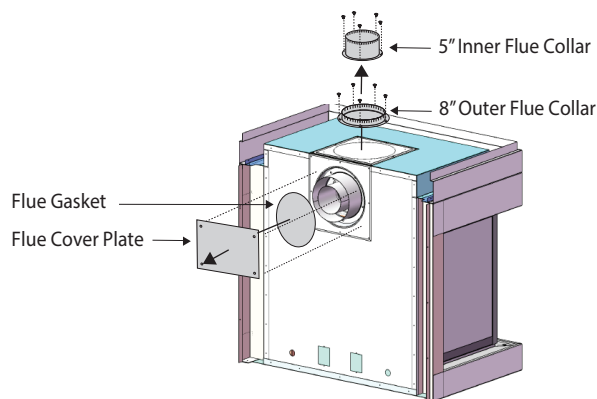

Figure 8. Flue cover and collar removal, Top Vented fireplace.
outlet, as shown in *Figure 8*.
1. Remove the Rear flue cover and gasket (5" and 8") on the flue outlet, as shown in *Figure 8*.